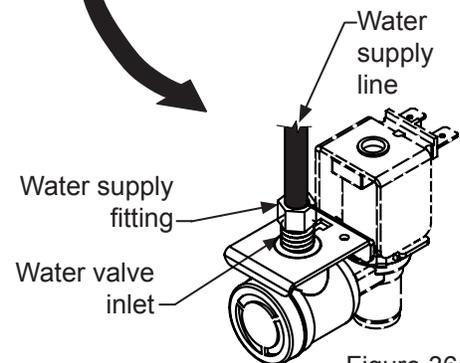
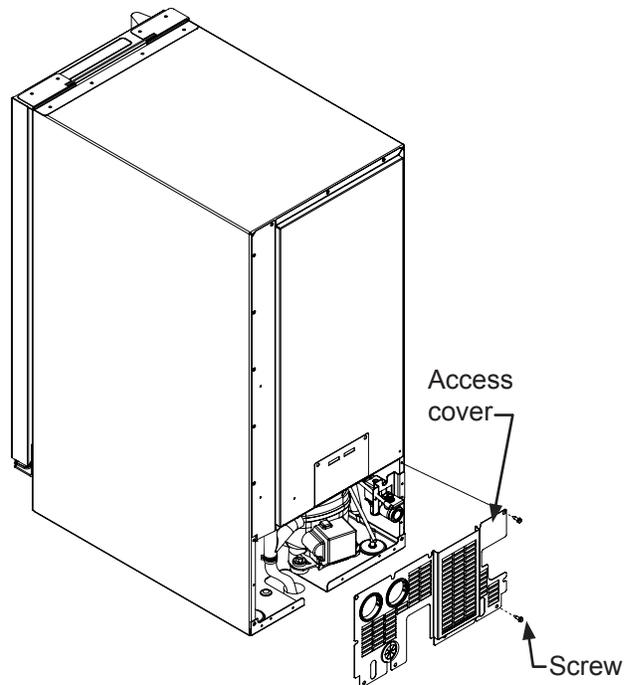

Figure 36a
Figure 37
2. Disconnect the water supply fitting at the inlet of the water valve. (See Figure 36a).
3. Change the electronic control to the "CLEAN" position for approximately one (1) minute. This will energize and open the water valve and remove most of the water from the water valve and the water valve's outlet water line to the reservoir.
6. Remove the access cover from the rear of the ice machine. (See Figure 37).